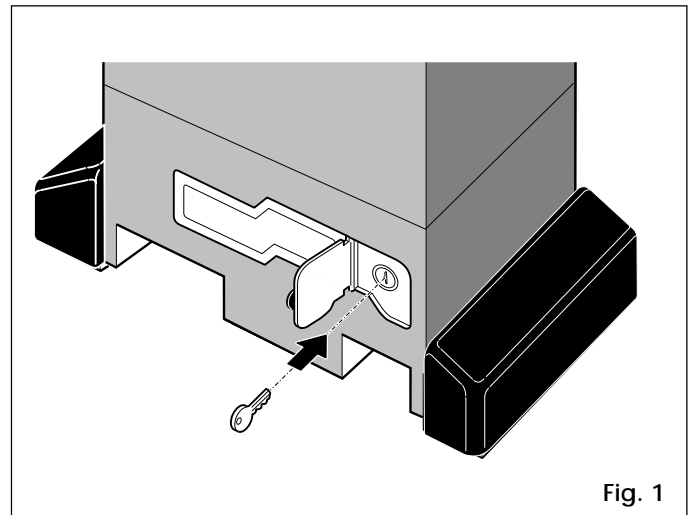

Fig. 1
- 2) Remove the cover of the relevant bore (Fig. 1- ref. 9), and unscrew the cap of the clutch adjusting screw (Fig. 19).
Check the quantity of oil in the operator periodically. For medium-low duty cycles an annual check is sufficient; for more intensive use, check every 6 months. To access the oil reservoir, remove the the oil filler cap (Fig.1 rif.10).
- 1) Open the lock cover plate and insert the key supplied in the lock (Fig.1).